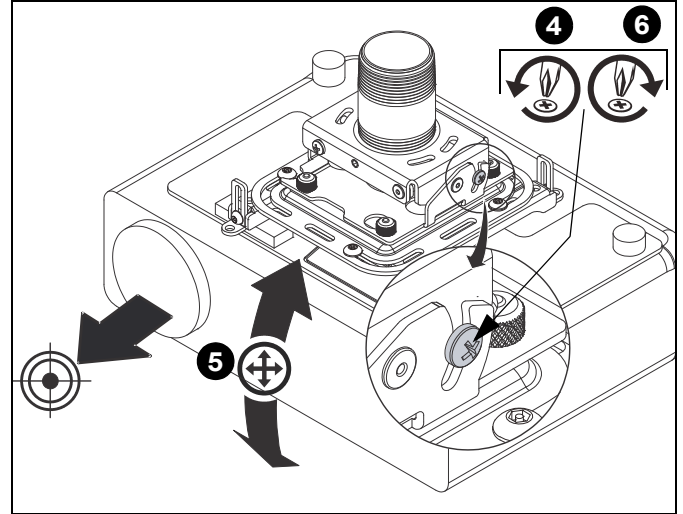

Figure 20
5. Adjust projector angle to desired pitch. (See Figure 20)